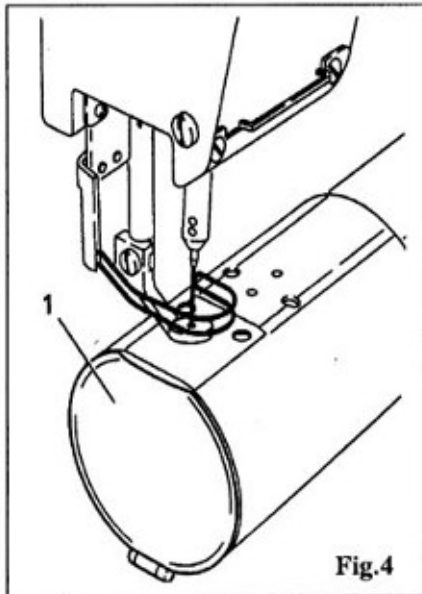
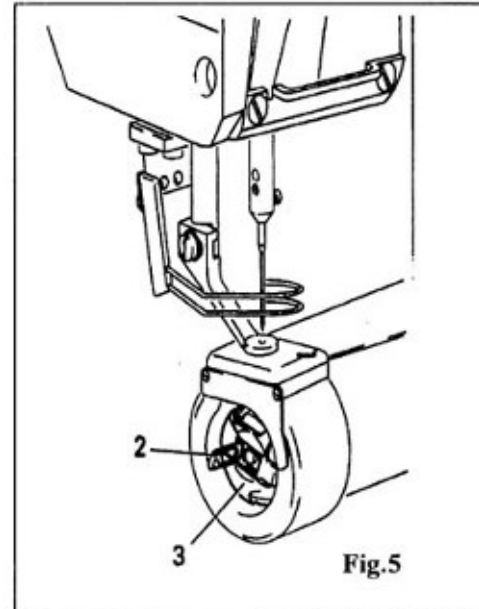

Fig.4
Fig.5
3) Threading the bobbin thread and regulating the bobbin thread tension (Fig.4, Fig.5)